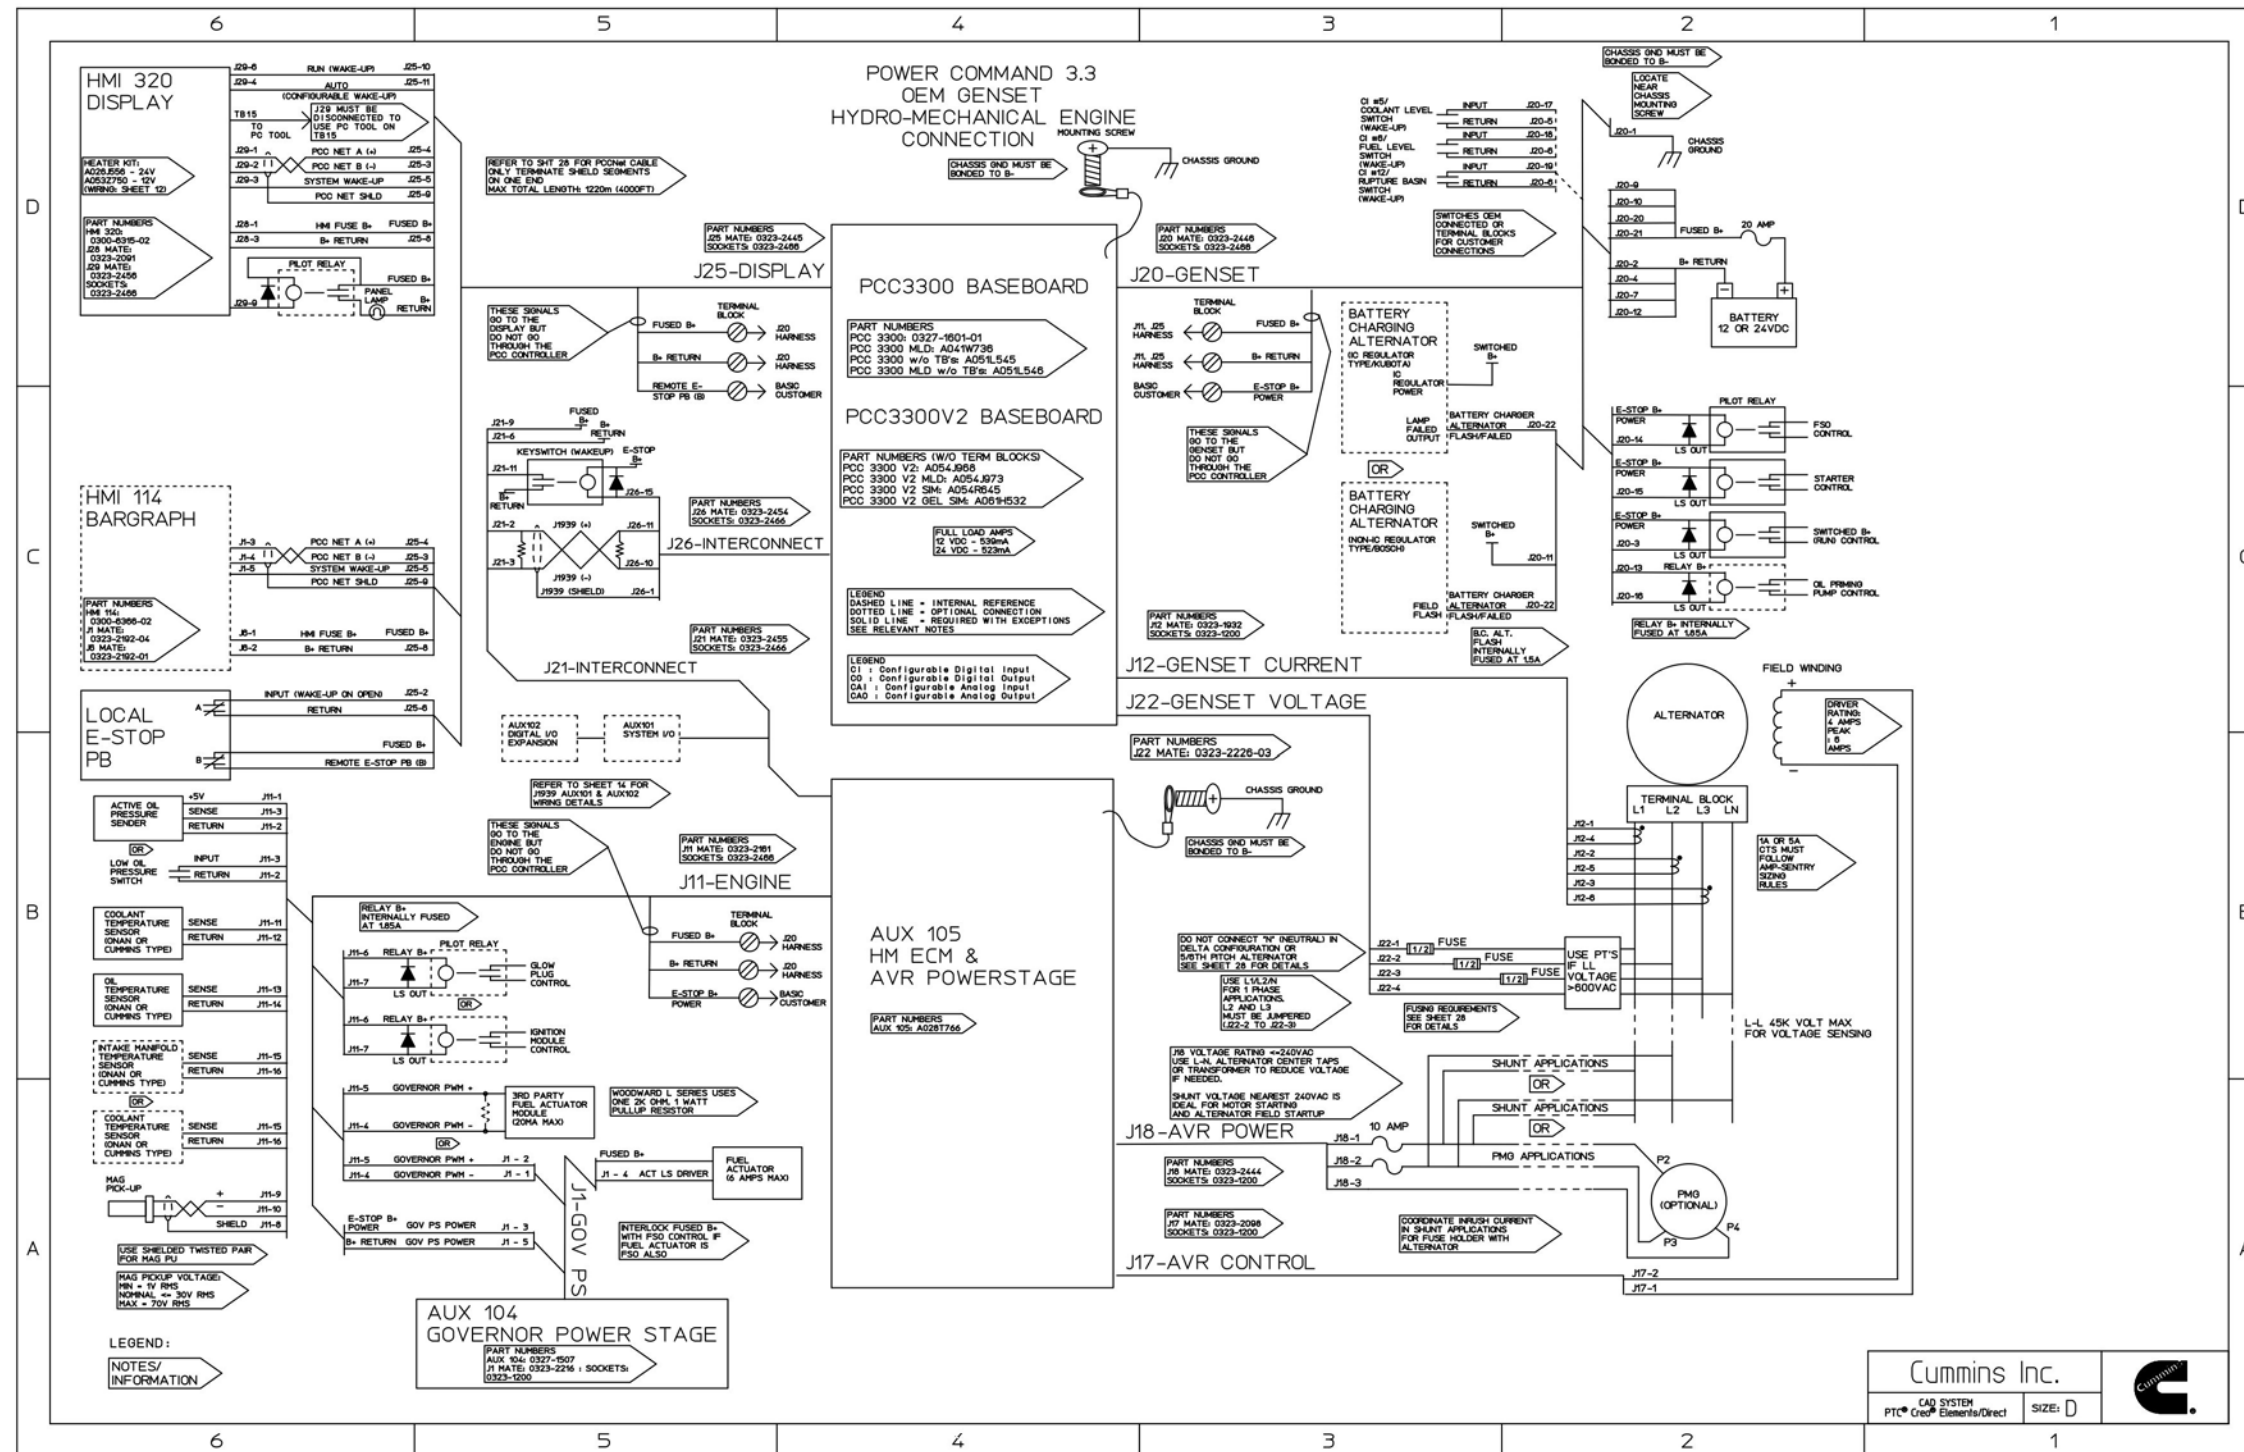

FIGURE 75. POWERCOMMAND 3.3 CONNECTIONS - HYDROMECHANICAL ENGINE
- Figure 75. PowerCommand 3.3 Connections - Hydromechanical Engine 130